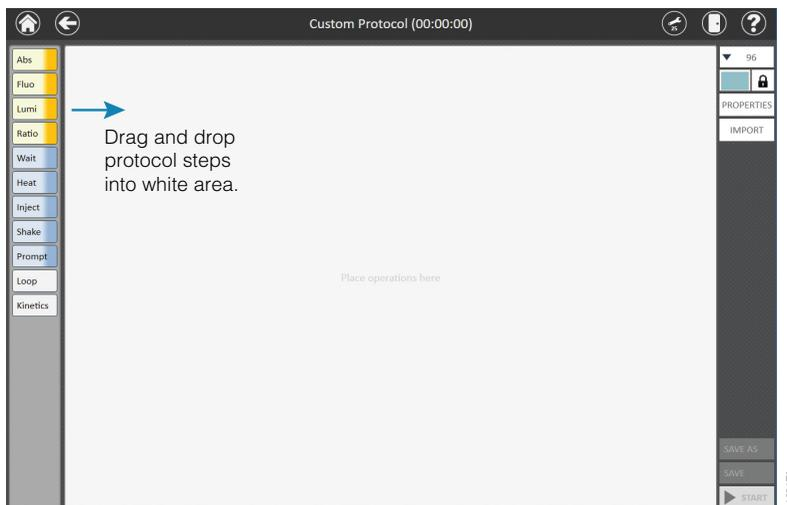

Figure 19. GloMax® Discover 'New Protocol' screen showing drag and drop feature to create custom protocols.
3. Build your protocol by dragging and dropping protocol functions from the left panel onto the Protocol window (Figures 19 and 20). Individual protocol functions are described in the Protocol Functions section. Use the **Properties** button on the right to modify the name and description of the protocol.